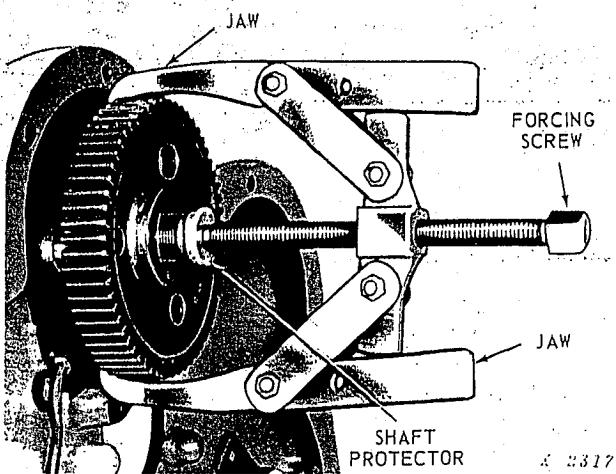

Fig. 68 — Gear Puller
Fitted parts can be damaged during removal and installation unless care is taken. Using hammers, pry bars, and chains may only cause more problems. However, special pullers which fit the parts and apply force evenly and smoothly are often the answer (Fig. 68).
6. *Place a shaft protector over the end of shafts before installing a puller against shaft (see Fig. 68).*